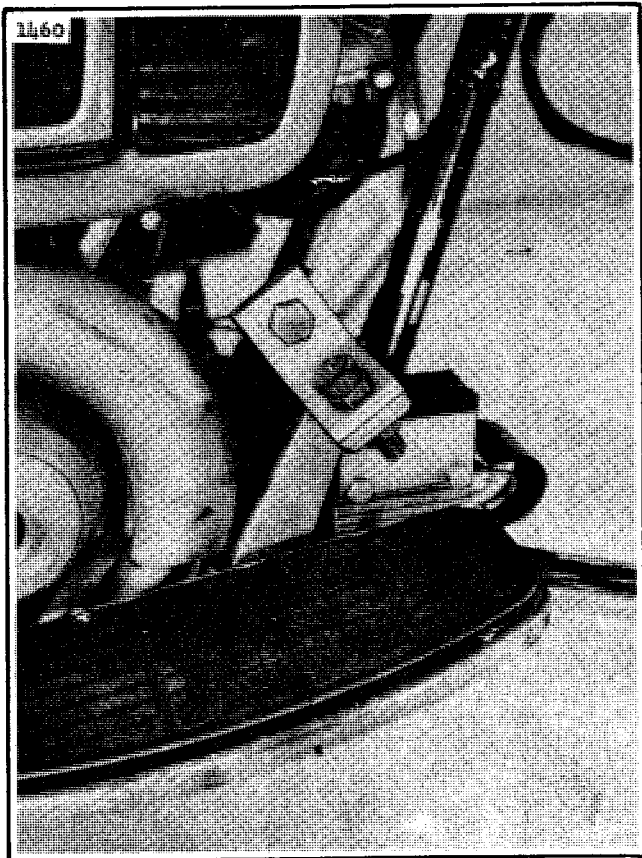

Figure 1. Proper Tool Mounting
3. Install test bracket to rear brake lever with welded hex facing outward (see Figure 1). Use both 1/2" bolts, but only one bolt gets a nut. Tighten securely.